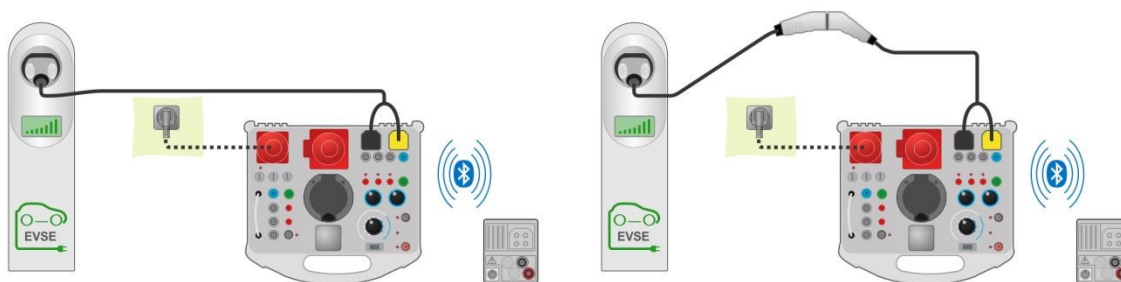
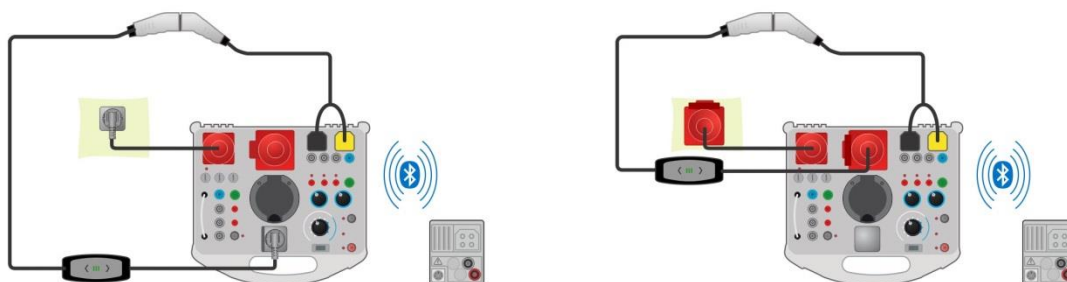
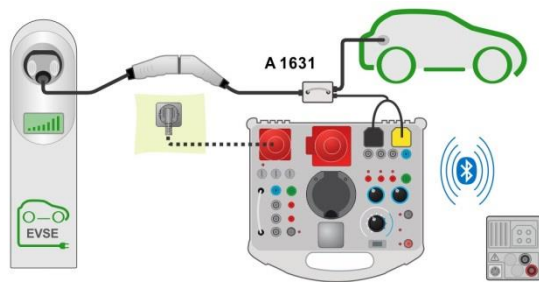

Figure 7.117: Diagnostic Test, EV simulator and Errors sub-tests - connection to EVSE
Figure 7.118: Diagnostic Test, EV simulator and Errors sub-tests - connection to Mode 2 charging cable powered from Analyser
Figure 7.119: Diagnostic Test (EVSE) - Monitor sub-test - connection to EVSE or charging cable
- Pair and connect MI 3152(H) with A 1632 eMobility Analyser instrument via Bluetooth communication. See chapter 4.6.5.1 *Selection and configuration of measuring adapters*.
- Check Bluetooth communication active sign if A 1632 eMobility Analyser is connected to MI 3152(H) instrument via Bluetooth communication.
- Connect the charging cable / station to A 1632 eMobility Analyser adapter. See **Figure 7.117, Figure 7.118 and Figure 7.119**. Refer to **A 1632 eMobility Analyser Instruction manual** for detailed information.